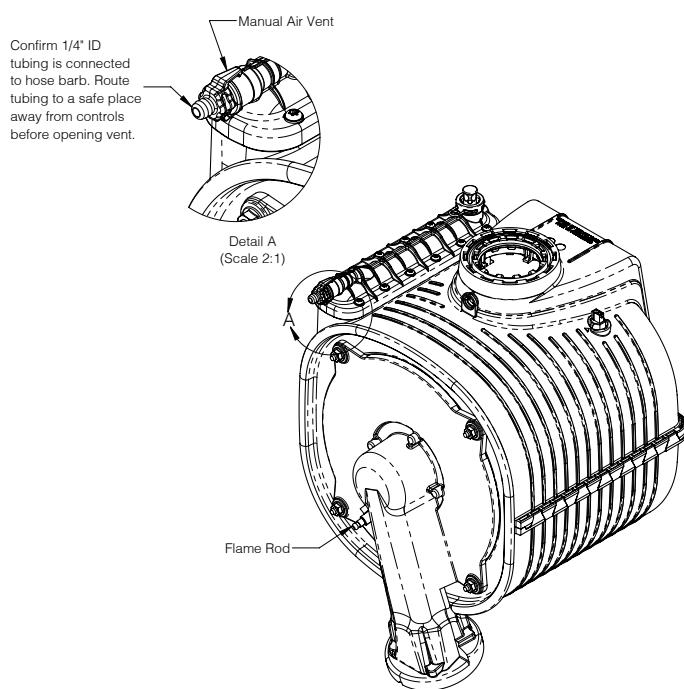

Figure 14-1: Manual Air Vent Location
4. Eliminate air in boiler by bleeding from heat exchanger manual air vent on top left side of heat exchanger (Figure 14-1).
- B. Measure carbon monoxide (CO) level after 5 minutes of operation above 50% firing rate. Ensure door is sealed before taking combustion readings.
11. Perform a check of ignition safety shut-off device. With burner firing, carefully unplug black ignitor/flame sensor wire at burner door using a pair of insulated pliers (Figure 14-1). Burner should shut off immediately.